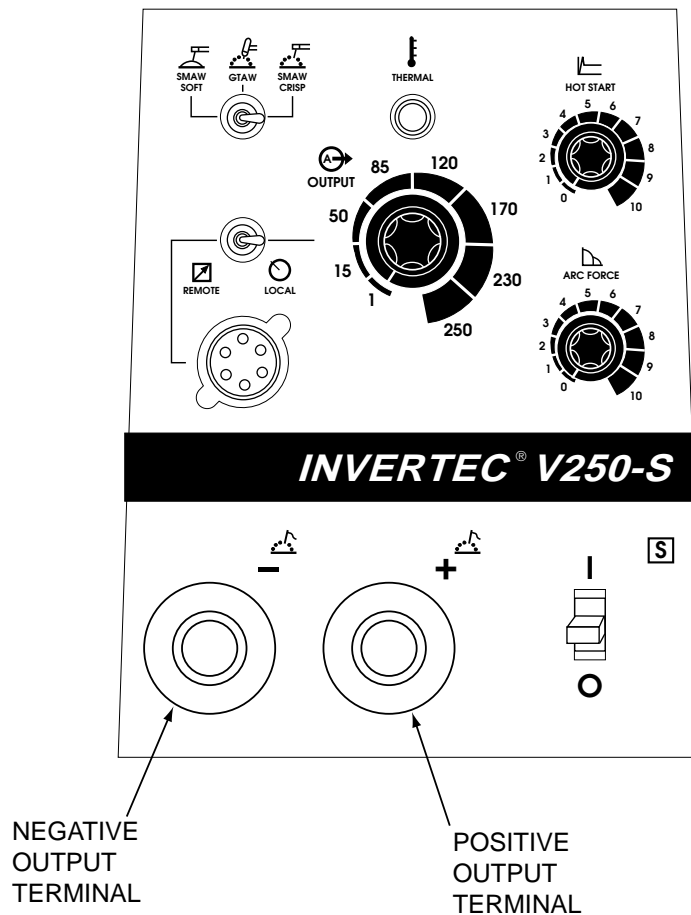

Figure F.4 Machine Output Terminals.
2. Locate the output terminals on the front panel of the machine. See Figure F.4.